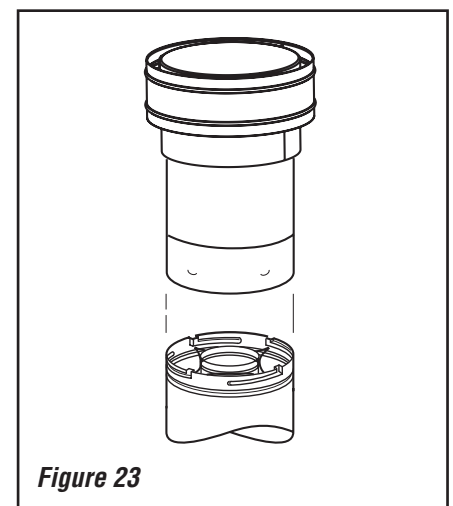

Figure 23
K. Install the vertical termination - The final step involves installation of the SV4.5CGV-1 Vertical Termination. Extend the vent sections to the height as shown in the "Vertical vent termination section" in **Figure 4 on Page 6**. The SV4.5CGV-1 Vertical Termination (**Figure 23**) can be installed in the exact same fashion as any other **Secure Vent™** section. Align the termination over the end of the previously installed section, adjusting the radial alignment until the four locking dimples of the termination are aligned with the inlets of the four incline channels of the last vent section. Push the termination down until it fully engages, then twist the termination clockwise running the dimples down and along the incline channels until they are seated at the end of the channels.